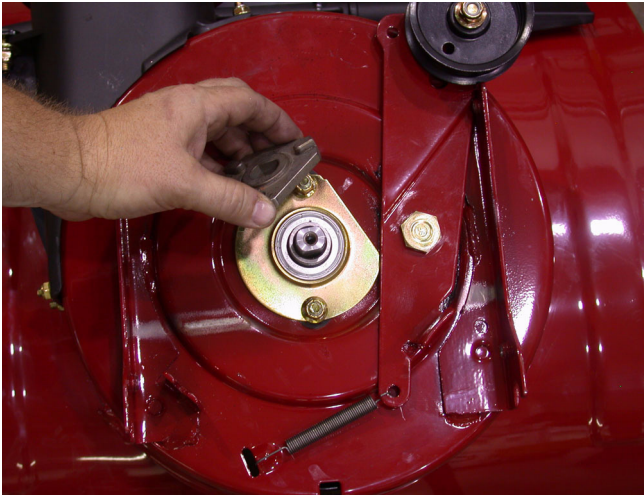

Figure 14.6
- 14.6. The pulley adaptor should slide off of the shaft easily. See Figure 14.6.